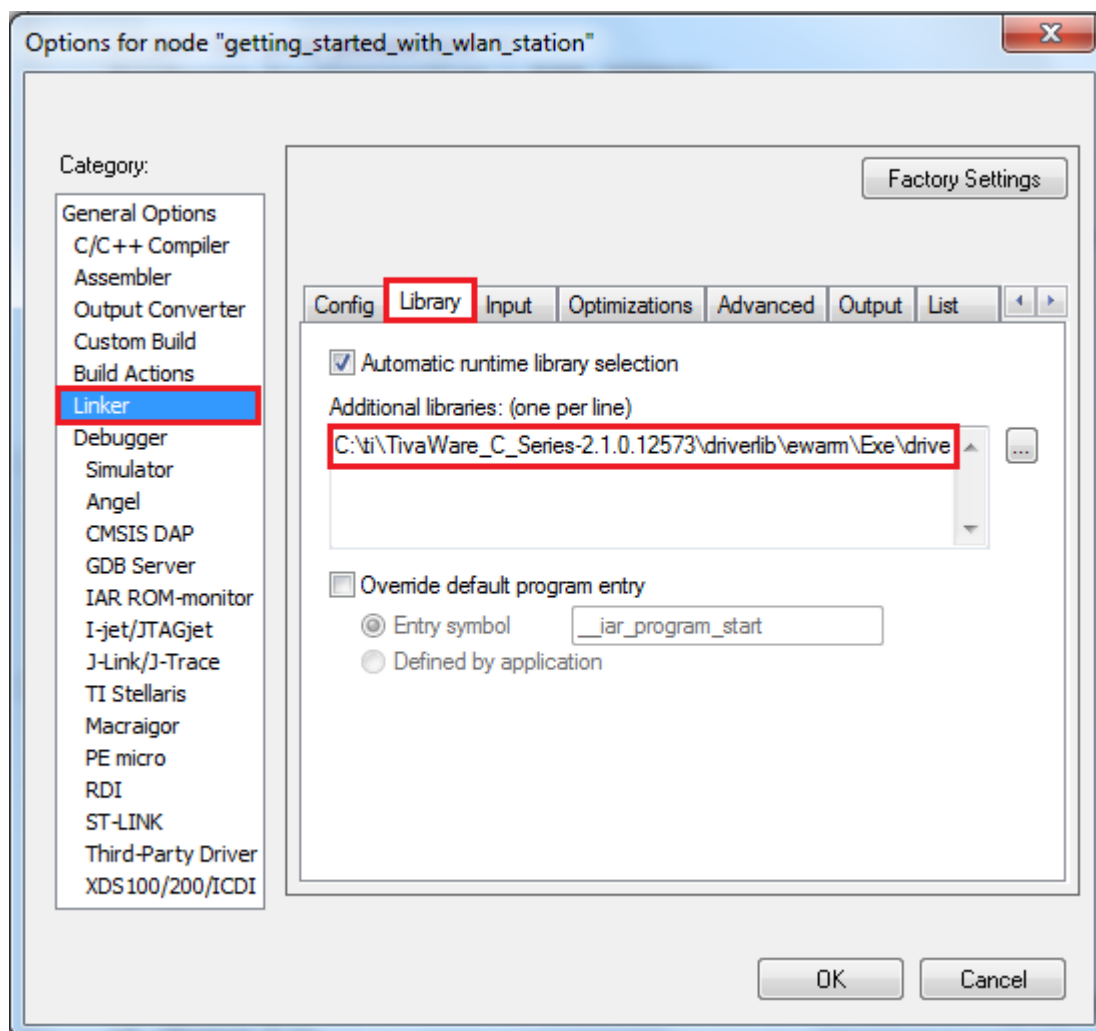

Figure 9. Library Tab
5. Open *Linker* → *Library* tab (see Figure 9).